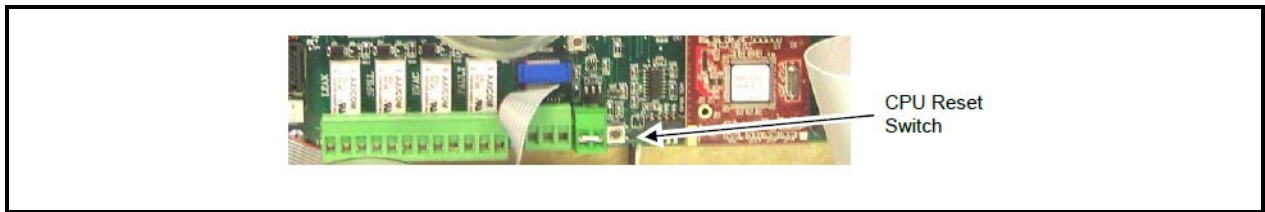

Figure 6-7 - Location of CPU Reset Button
1. Restart the RLDS by either (a) cycling the power, or (b) pressing the CPU reset switch on the main printed circuit board (see **Figure 6-7**).